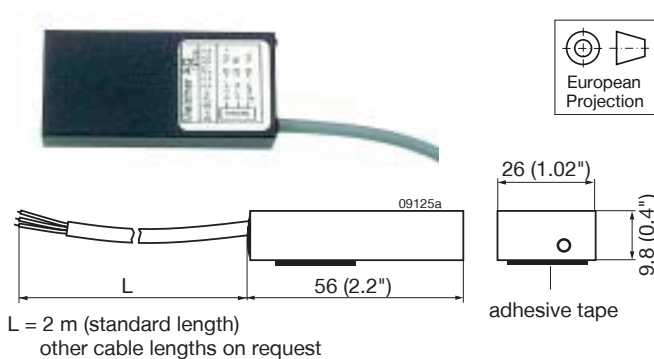

Fig. 38
- Different battery sensors S-KSMH... for using the converter as a battery charger. Different cell characteristics can be selected; see fig. 38, table 13, and *Battery Charging/Temperature Sensors*.